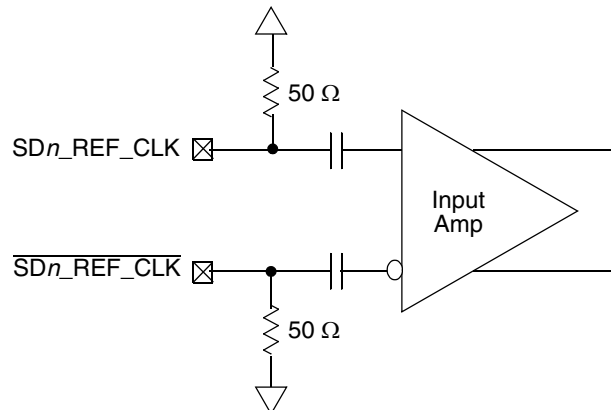

Figure 44. Receiver of SerDes Reference Clocks
Figure 44 shows a receiver reference diagram of the SerDes reference clocks. Characteristics are as follows:
- The SDn_REF_CLK and $\overline{SDn_REF_CLK}$ are internally AC-coupled differential inputs as shown in Figure 44. Each differential clock input (SDn_REF_CLK or $\overline{SDn_REF_CLK}$) has on-chip 50- Ω termination to SGND_SRDSn (xcorevss) followed by on-chip AC-coupling.